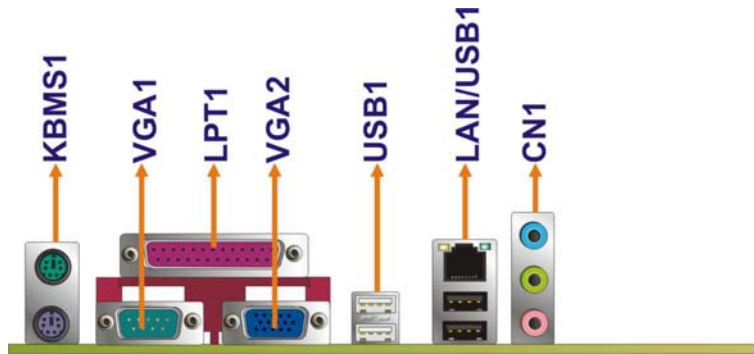

Figure 4-17: IMBA-9454B External Interface Connectors
- CN Location:** See **Figure 4-17** (labeled number 1)
CN Location: See **Figure 4-17** (labeled number 2)
CN Location: See **Figure 4-17** (labeled 3)
CN Location: See **Figure 4-17** (labeled number 4)
- CN Location:** See **Figure 4-17** (labeled 5)
- CN Location:** See **Figure 4-17** (labeled 6)